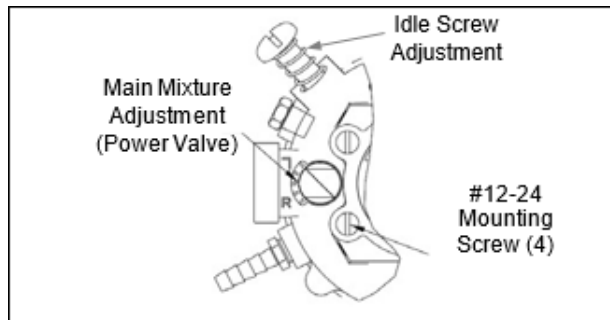

Figure 6-10. Main Mixture and Idle Screw Adjustment on Bottom of Mixer (partial view)
4. If the phi reading is not at the desired level, bring the engine back to idle and adjust the power valve (Figure 6-10).
3. With the idle screw completely tightened clockwise, use a standard screwdriver to adjust the idle screw (Figure 6-10) counterclockwise until a minimum average MAP value has been reached. The MAP value is displayed on the Service Tool screen.
3. The power valve should be adjusted (Figure 6-10) to obtain maximum torque converter stall speed.